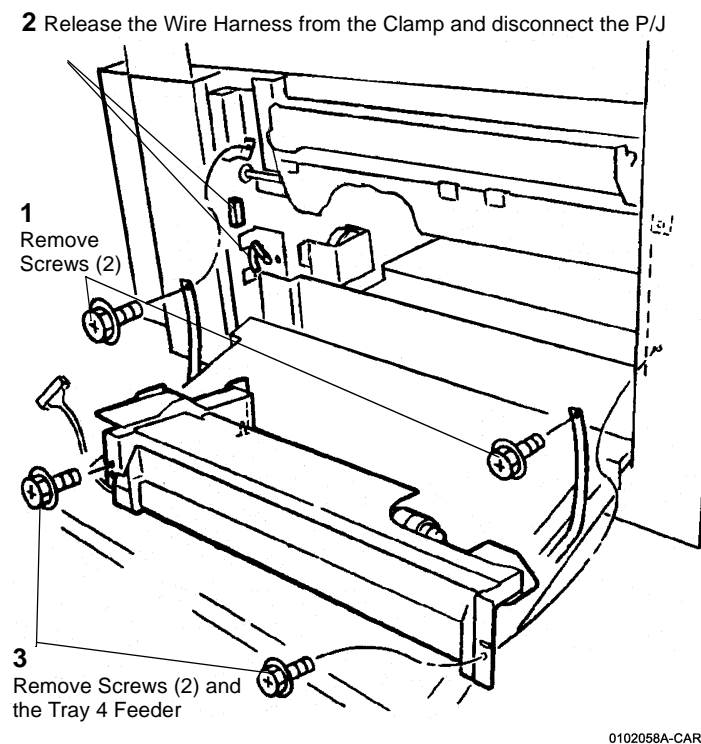

Figure 1 Removing the Tray 4 Feeder
3. Remove the Tray 4 Feeder (Figure 1).